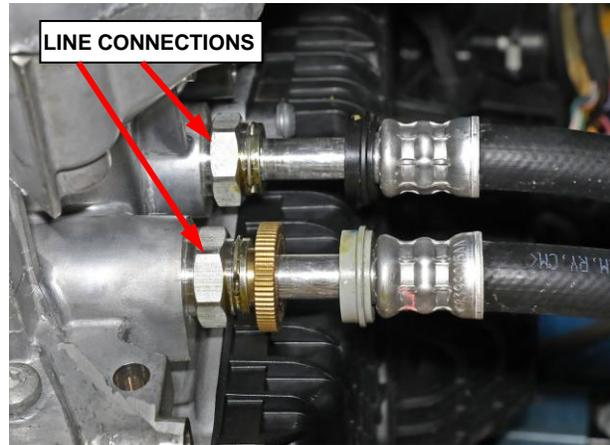

Figure 16 – Connections at Transmission
22. Using tools 8875A and 9546, disconnect the transmission cooler lines at the transmission (Figure 16).
25. Connect the transmission cooler lines at transmission fittings (Figure 16).